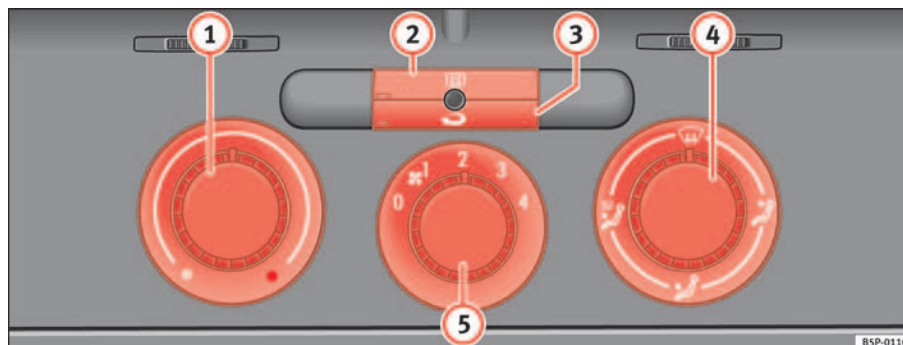

Fig. 122 On the dash panel: Heater controls
- Using the controls ⇒ fig. 122 ① and ④ and the control ⑤ you can set the temperature, air distribution and the turbine speed.
- To switch a function on or off, press the appropriate button ② or ③. When the function is activated, the display window in the lower left of the button is lit.